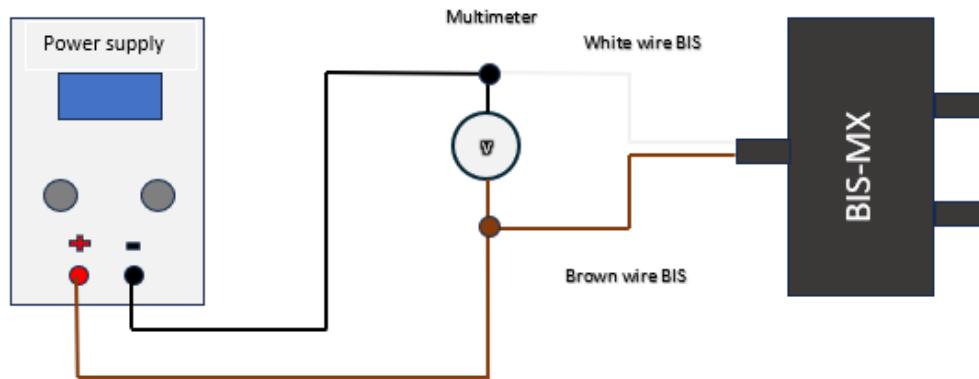

Fig. 1 Connection Diagram
3. Assemble the connection circuit according to "Fig. 1 Connection Diagram".